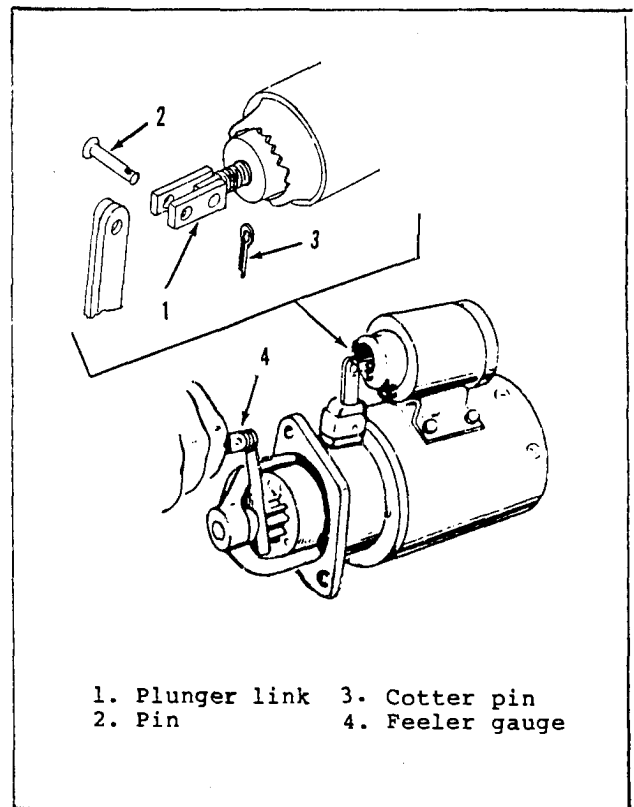

Figure 5-13 Checking Pinion Clearance.
(2) Check pinion gear clearance. See figure 5-13. Proper clearance is important to insure starter engagement. To check, press on solenoid plunger to shift pinion gear into full mesh position. While holding plunger in, measure clearance with feeler gauge (4) between pinion gear and stop. The proper clearance is $0.096 \pm 0.030/-0.020$ inch. Adjust clearance by turning solenoid plunger link (1) in to decrease gap, or out to increase the gap. See figure 5-13 cutaway view. Reinstall the pin (2) and cotter pin (3) securing plunger link (1) to yoke.